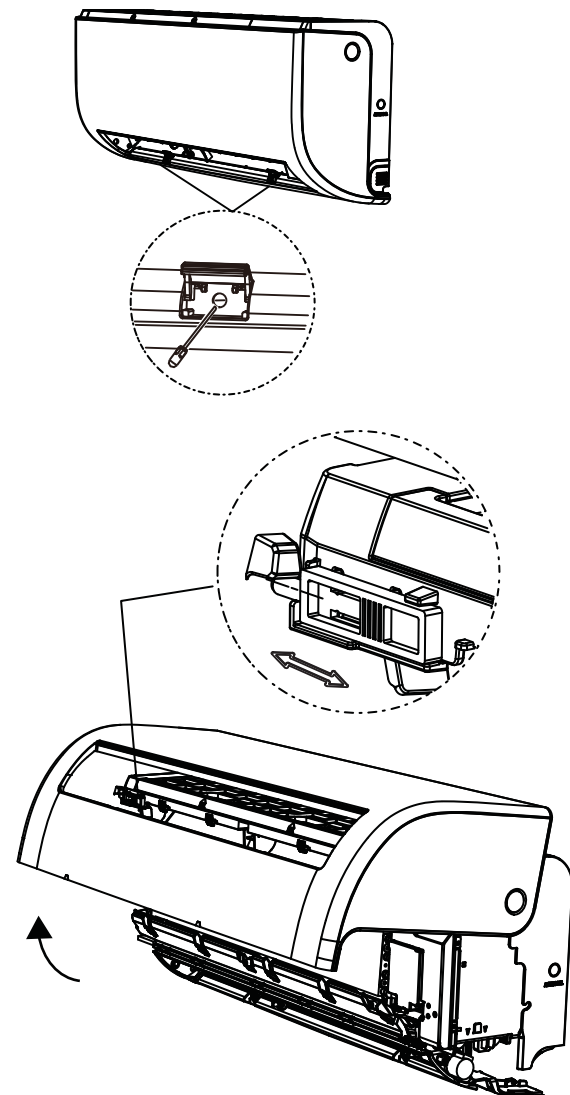

Fig. 15 — Panel Position
2. Open and fix the position of the panel. First, unscrew the two screws (see Fig. 15), then open the panel, and fix the position of the panel by the latch.